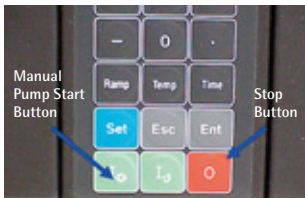

Figure 2-7: Manual Pump Start Switch
2. Perform a rapid jog of the pump by pressing the left green button (manual pump start button) (Figure 2-7) on the control keypad, followed immediately by pressing the red stop button on the control keypad (Figure 2-7).